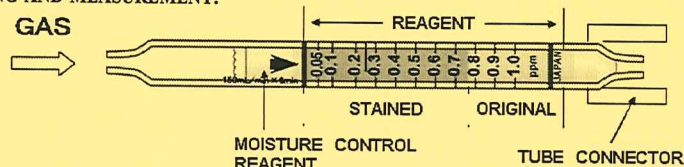

Fig.1
- ① Break both ends of the detector tube with attached ampule cutter.
- ② Connect the detector tube into the tube connector of the Carbon Dioxide Analyzer as shown in Fig. 1 (Arrow mark shall point to the analyzer.), and fix it into the detector tube holder.
- ③ In accordance with instruction manual of Carbon Dioxide Analyzer, preset the TIMER at 6 minutes and adjust the flow rate at 150mL/min.
- ④ After completion of sampling (6 minutes), remove the detector tube from the tube holder and read the scale at the maximum point of a stained layer.